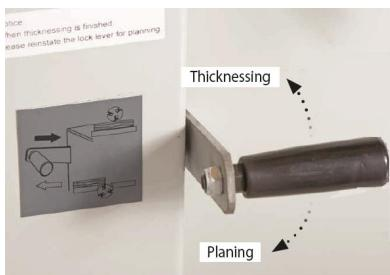

Fig 24
- Raise the locking lever to engage the thicknessing function, see Fig 24.